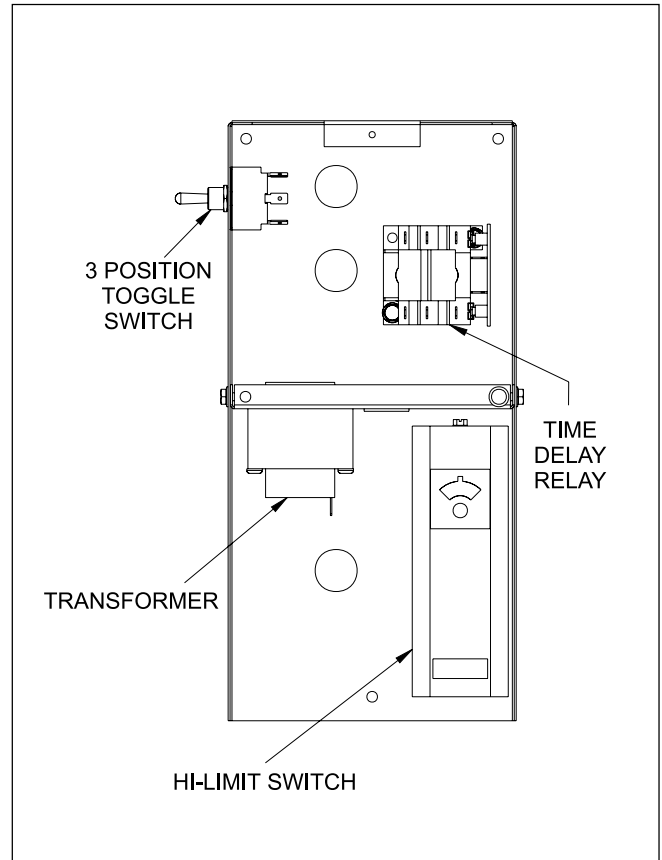

Figure 12. Location of Parts in Control Box.
2. A means of switching off 115V AC to the unit is provided by a 3-position toggle switch on the control panel (see Figure 12). Additional switches or connections may be required by local authority. If there are no local requirements, follow the latest edition of the National Electrical Code, ANSI/NFPA 70, in the U.S. In Canada, follow the latest edition of CSA C22.1 Canadian Electrical Code, Part 1.